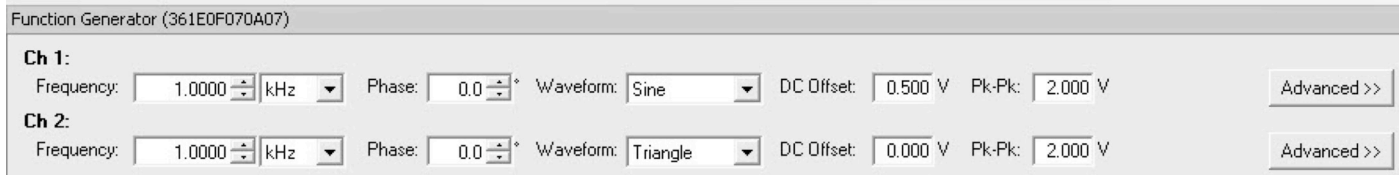

Fig. 3—Function generator screen
2. Change the settings for Ch 1 and Ch 2 to match those shown in Fig. 3 above.